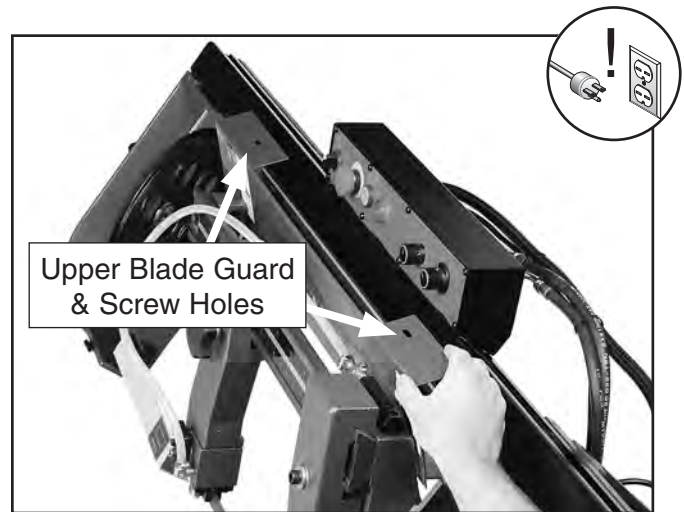

Figure 38. Opened upper blade guard.
4. Remove the two screws to open the upper blade guard (see **Figure 38**).